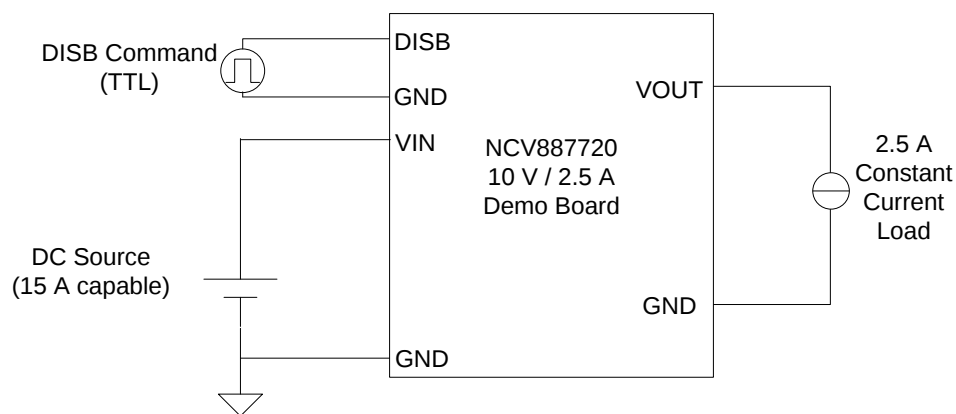

Figure 1. Demo Board Connections
1. Connect a DC source voltage (15 A capable) set to a voltage of 13-14 V as shown in Fig. 1.
2. Connect the DISB TTL control signal as shown in Fig. 1. The initial DISB state should be set to logic-'0'.